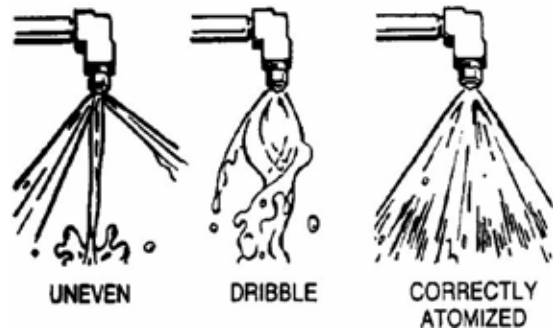

Figure 20. Check Jet Spray for Even Flow
7. Check the spray on the jets for even flow. A jet that sprays unevenly or dribbles needs to be cleaned (see Figure 20).